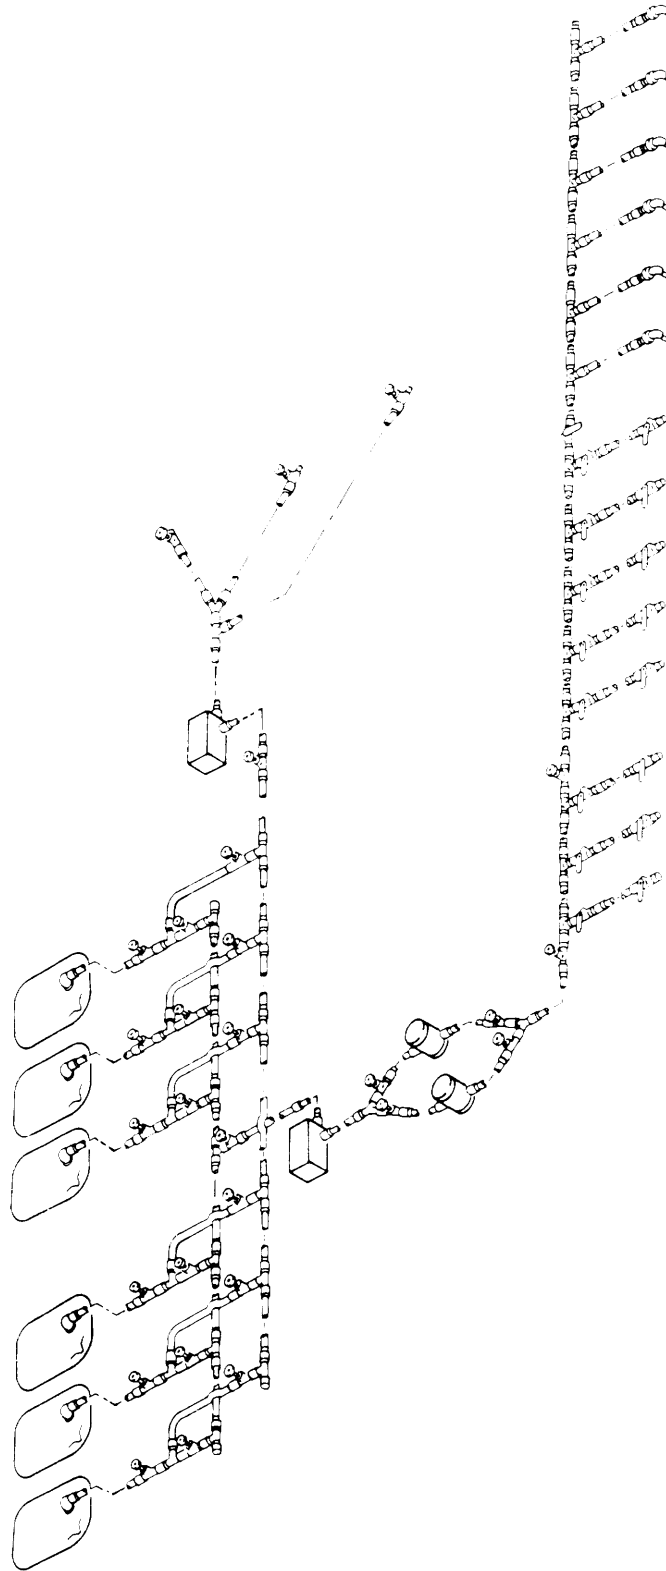

Figure 1-1. Supply Point Fuel System, NSN 4930-00-142-5313.
a. Type of Manual. This technical manual provides operator and unit maintenance procedures for the Supply Point Fuel System (figure 1-1). Additional maintenance data relevant to designated components can be found in the applicable end item technical manual. This manual also provides a Repair Parts and Special Tools List located at Appendix F.